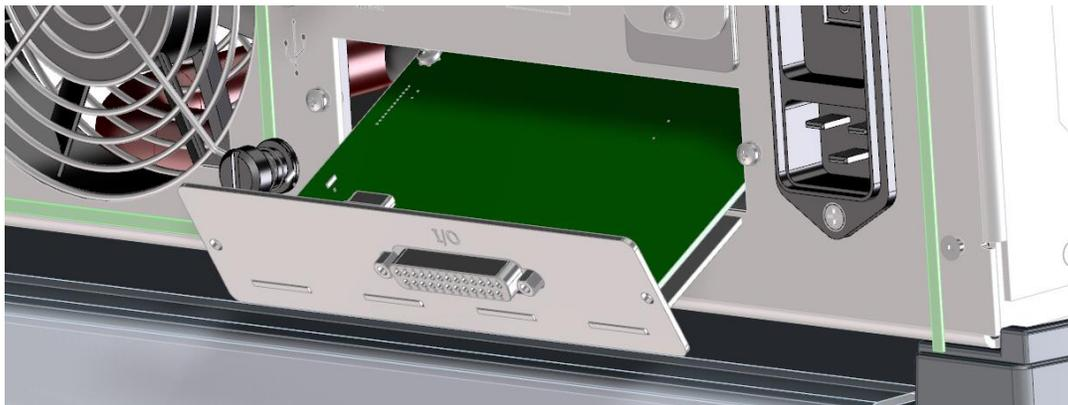

Figure 5: I/O Bracket Installation
7. Rotate the I/O bracket and board to approximately a 30° angle and insert into the leak detector (Figure 5: I/O Bracket Installation).